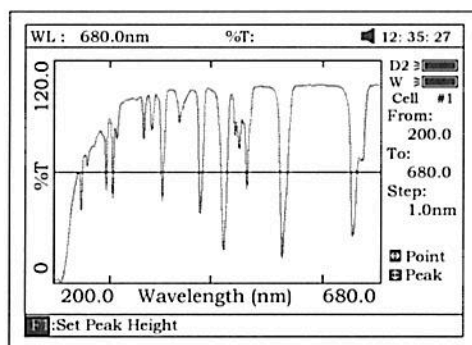

Fig 49
6. Press **【F3】** to search the Abs/%T value of the scan. There are two ways for you to search (Fig 49).